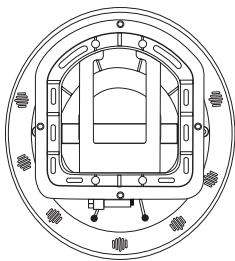

Figure 2.
2. Connect conduit to midst of Mounting Spacer(left of Bracket), see Figure 2.